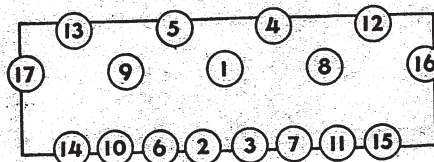

Fig. 2 Cylinder head tightening sequence. All models
17. Reverse removal procedure to the heads, tightening the caps in the sequence shown in Fig. 2.